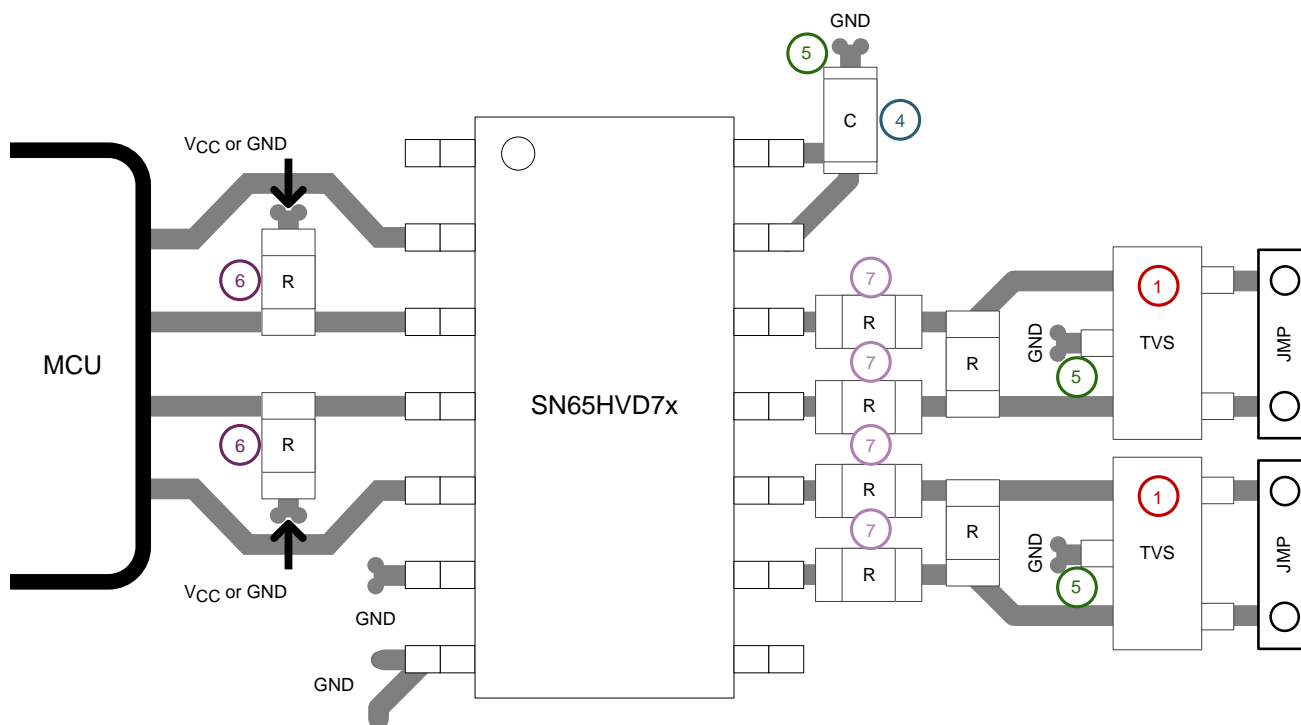

Figure 41. SN65HVD7x Layout Example
For successful PCB design, begin with the design of the protection circuit (see Figure 41).
4. Apply 100-nF to 220-nF bypass capacitors as close as possible to the V_{CC} -pins of transceiver, UART, controller ICs on the board (see Figure 41).
5. Use at least two vias for V_{CC} and ground connections of bypass capacitors and protection devices to minimize effective via-inductance (see Figure 41).
6. Use 1-k Ω to 10-k Ω pullup and pulldown resistors for enable lines to limit noise currents in these lines during transient events (see Figure 41).
7. Insert pulse-proof resistors into the A and B bus lines if the TVS clamping voltage is higher than the specified maximum voltage of the transceiver bus pins. These resistors limit the residual clamping current into the transceiver and prevent it from latching up (see Figure 41).